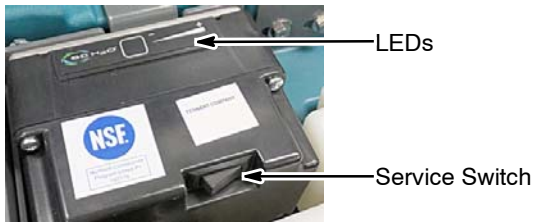

Fig. 63
**NOTE:** To enter the module's Manual Mode, depress and hold the service switch for 20 seconds and release (Figure 63). The first and third green LEDs will alternate on and off indicating that you are in the Manual Mode and the ec-H2O pump will be operating. To exit the Manual Mode, depress the Service Switch for one second and release. The module will also exit the manual mode automatically after 7 minutes.